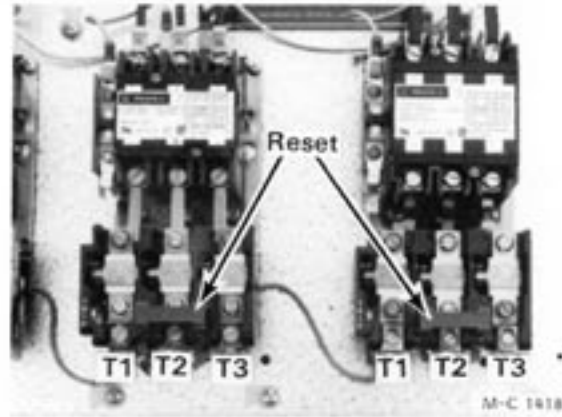

Figure 10 - Fan Magnetic Starters - 3 Phase
- A. **Three phase motors** - Move the wire from terminal T1 to T3 and T3 to T1 on the fan magnetic starter in the lower control cabinet, see Figure 10.